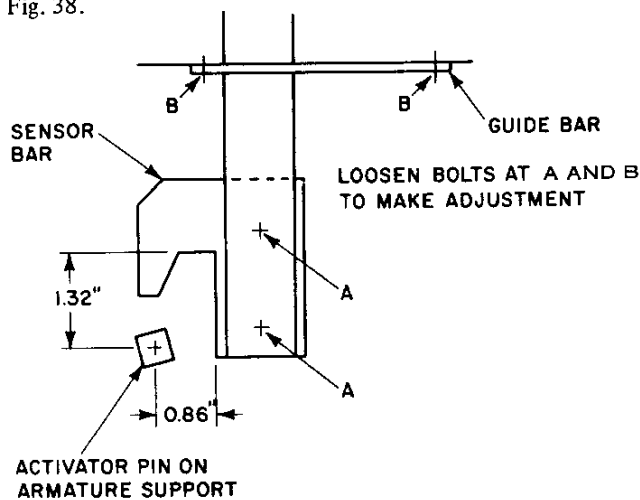

Fig. 38. Location of activator pin to sensor bar with contactor de-energized
1. With the interlock assembly mounted on the contactor and the contactor units in the de-energized position, adjust the guide bar and the sensor bar, relative to the activator pin on armature support, to dimensions shown in Fig. 38.